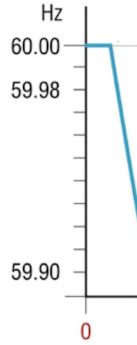

Figure 1: Example of the frequency response on a grid with a power imbalance
**Q.** Which events could the graph in Fig. 1 be describing?